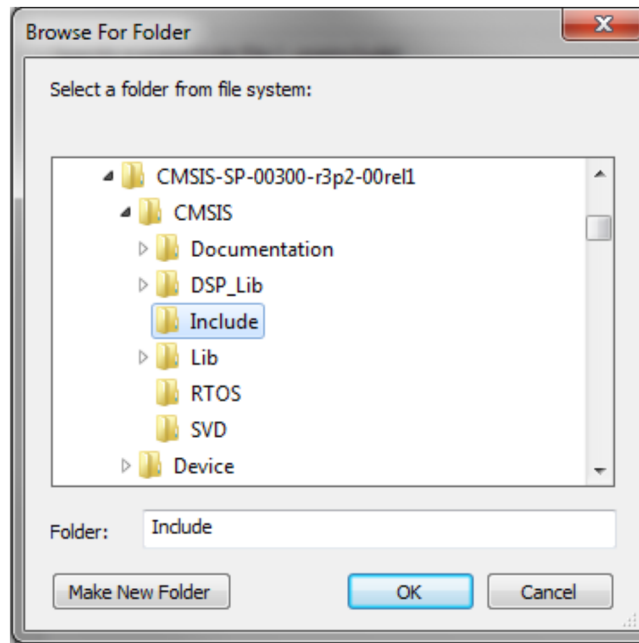

Figure 22. Using the File System Option to Add the Base CMSIS Include Directory to the Compiler's #include Search Path
- Look for the **Add** button to **#include search path** (`--include_path, -I`) field in the **Include Options** section (see Figure 22).